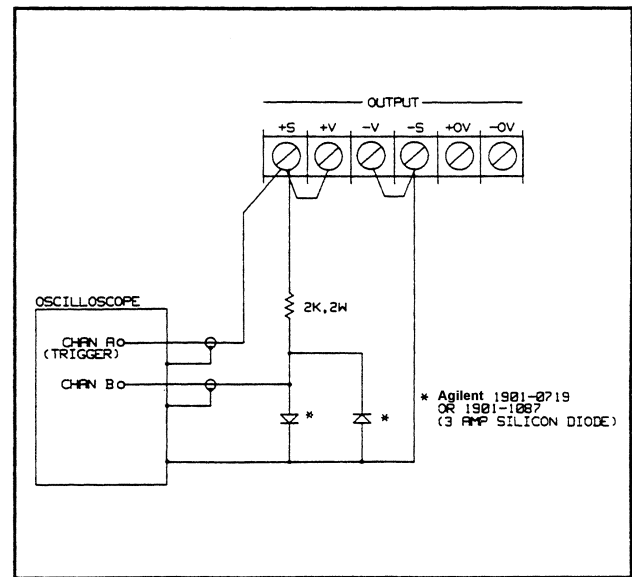
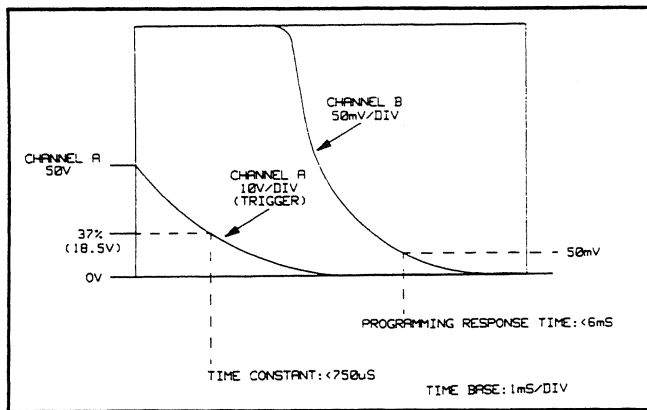

Figure 3-7. Down Programming Speed Test Setup
Figure 3-8. CV Down Programming Speed Test Waveforms
- a. Turn off the supply and connect the output to be tested as shown in Figure 3-7.
- g. On Channel A, observe the output voltage transition from the High Range Full Scale Voltage to the scope's bottom horizontal line. Look for a smooth exponential waveform with no "kinks" or aberrations. Perform a time constant check by insuring that the output voltage falls to about (37%) 18.5 V in less than 750 μ S. Refer to the Channel A waveform shown in Figure 3-8.
- h. Now observe Channel B on the oscilloscope while maintaining the trigger on Channel A as in step f. Note that the diode clamp, used in the test setup of Figure 3-7 prevents gross overload of Channel B (which is set at 50 mV/div) allowing examination of the "tail" of the exponential waveform. The output voltage should be within 50 mV of its final settling value on the bottom horizontal line in less than 6 msec. Refer to the Channel B waveform shown in Figure 3-8.